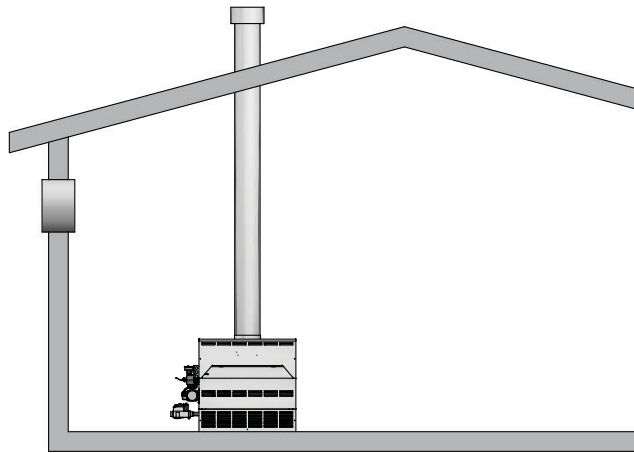

Figure 1-6 *_Combustion Air from Outside Single Opening*
4. If a single combustion air opening is provided to bring combustion air in directly from the outdoors, the opening must be sized based on a minimum free area of one square inch per 3000 Btu/hr (7 cm² per kW). This opening must be located within 12" (30 cm) of the top of the enclosure (see FIG. 1-6).